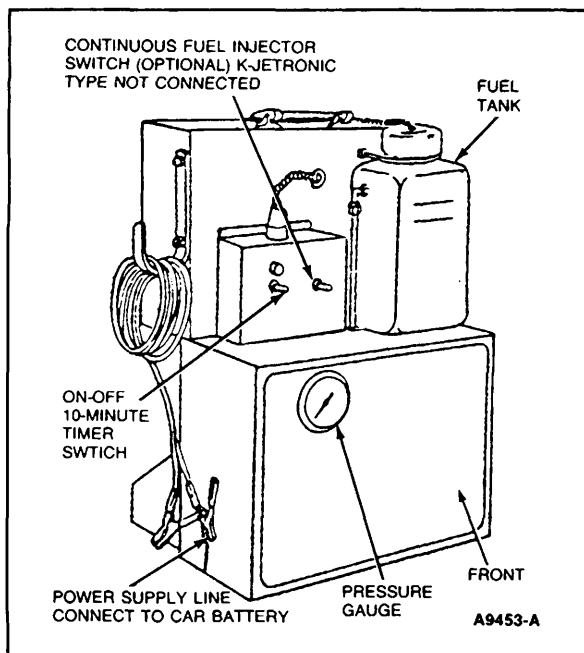

Figure 2
7. Connect the power supply leads (Fig. 2) to the battery, observing correct polarity.
To gain access to filter located under the front cover, refer to Figures 2 and 3, unscrew and remove the cover access bolts, each side and slide the cover off. Replace filter with in-line type filter. Change filter frequently.